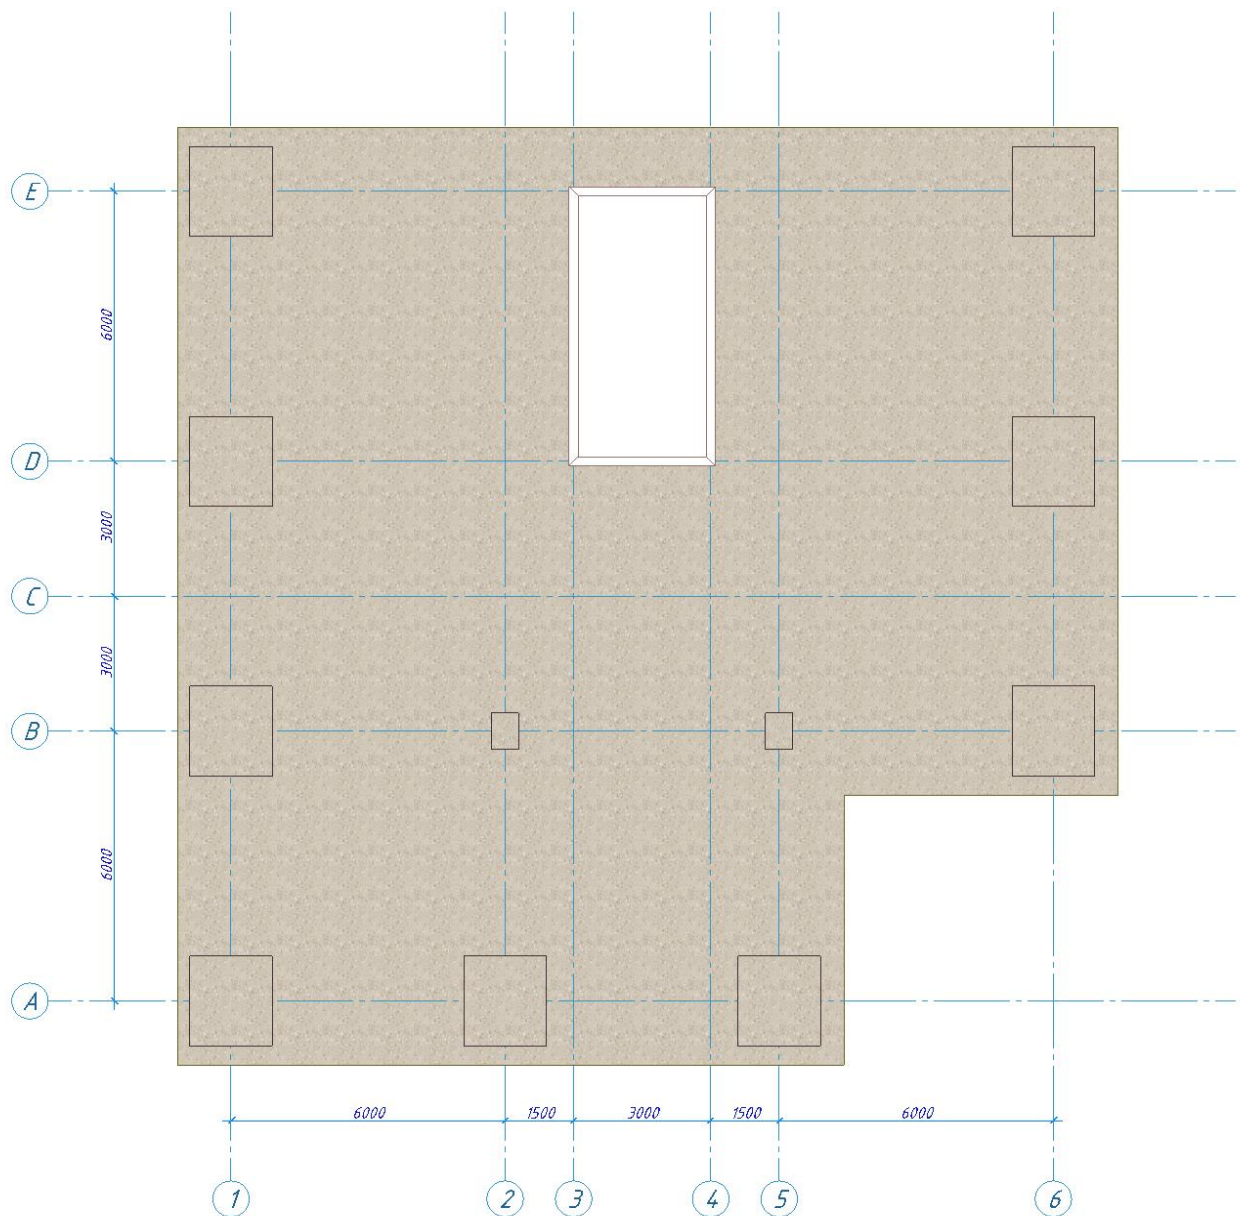

Figure 23.11. Location of the opening in the floor slab on the top view
- ⇒ To define the rectangular opening for the staircase in the stiffness core, specify in sequence two points - vertices of rectangle along diagonal (see Fig. 23.11).